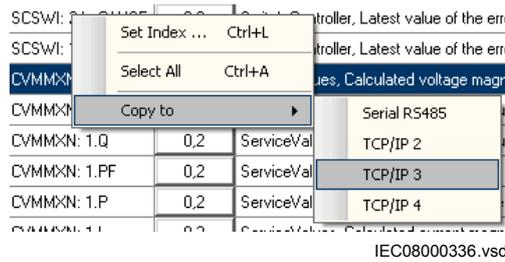

Figure 66: CMT: Context menu in DNP3 window
1. Click the two inner arrows to sort signals to another index sequence, or select *Set Index ...* from the context menu to move one or a set of signals to another array, see Figure 66.